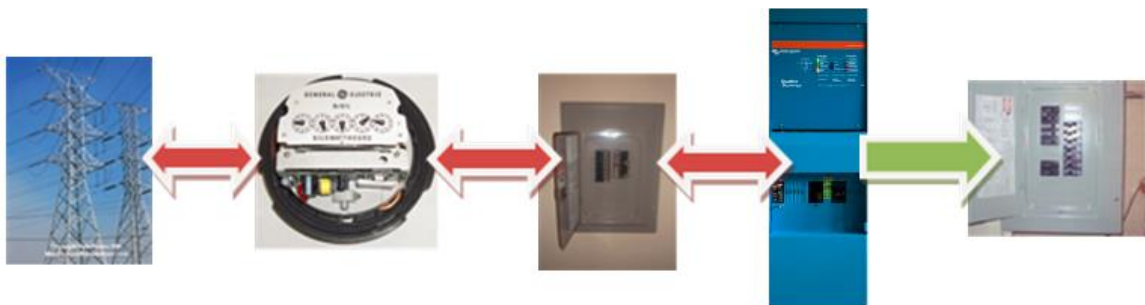

Figure 20-Grid-Tied Battery Backup Flow Diagram
- The flow diagram in Figure 20 shows AC current flow direction for a battery backed up grid tie system.